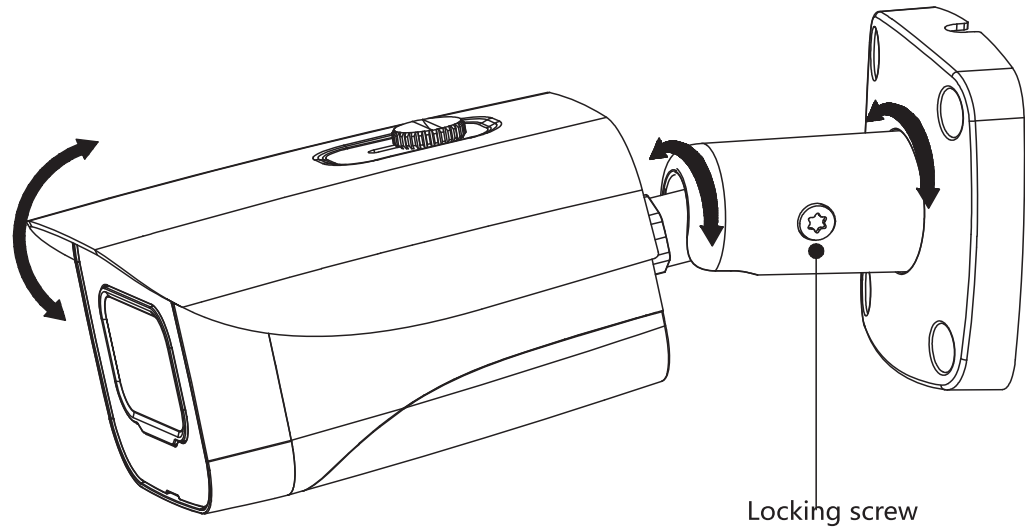
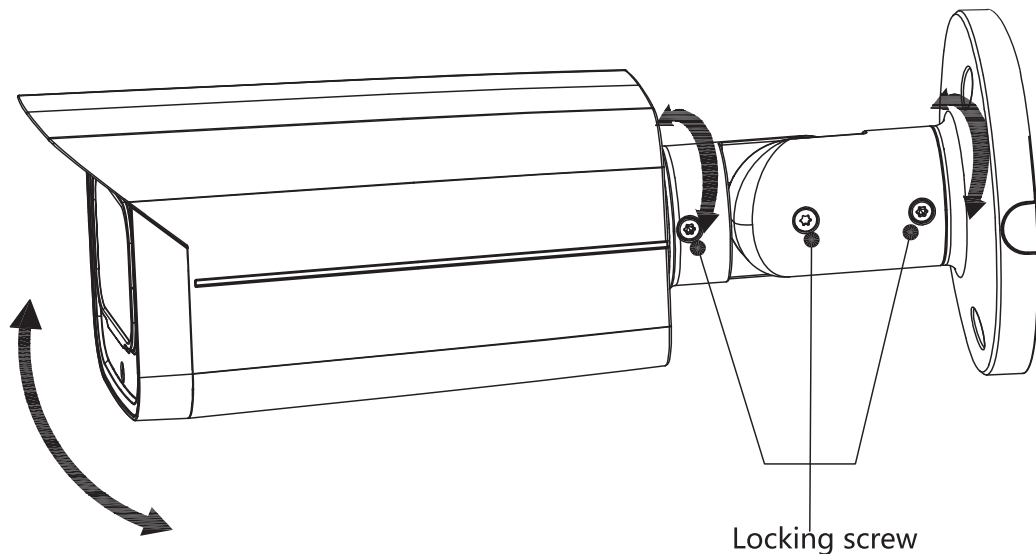

Figure 3-3
Figure 3-4
Step 1 Find the mounting template sticker from the accessory pack and stick it to the mounting surface ⑤. Drill screw holes (and the cable outlet hole if it needs to go through the mounting surface) on the mounting surface as indicated on the mounting template.
- For masonry mounting surface, insert expansion bolts④ from the accessory pack in the screw holes.
Step 3 Adjust the location of the bracket③ according to cable outlet requirement (top out or side out), then pull the cable out through mounting surface or the side wire tray. Align the screw holes on the bracket③ to those on the mounting surface, then put in and fasten the supplied self-tapping screws② to attach the device① to the mounting surface.
Step 5 Loosen the locking screw first, aim the lens to the ideal angle and adjust the focus until you get clear image (see Figure 3-3 or Figure 3-4), and then fasten the locking screw.